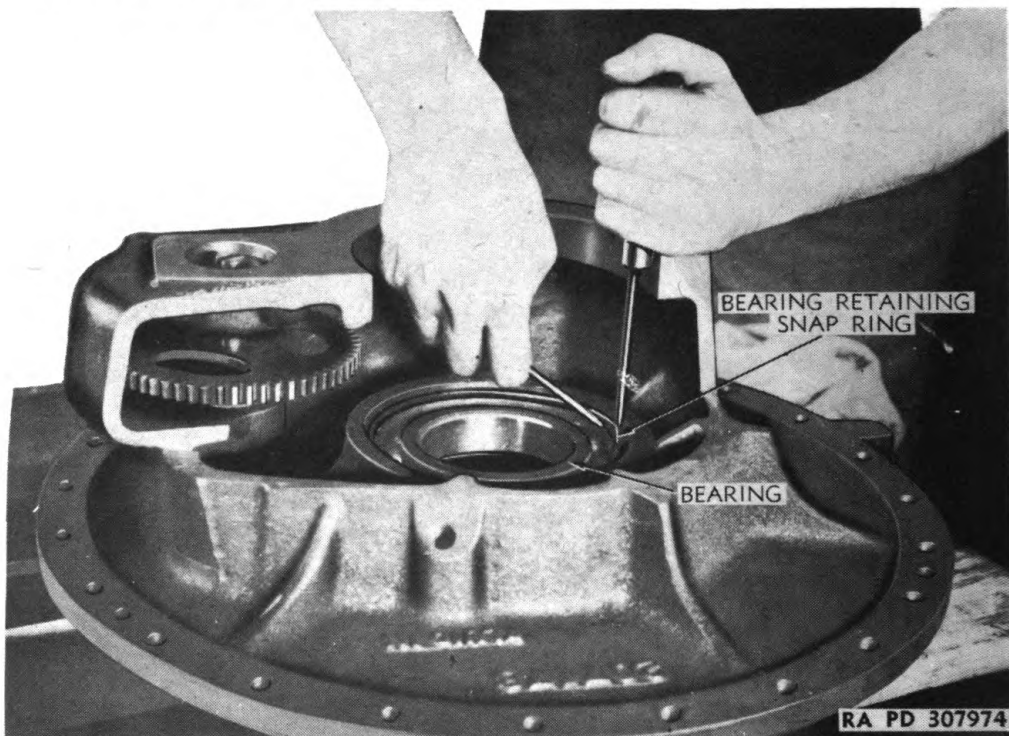

Figure 166 — Removing Bearing Retaining Ring From Cover Plate
h. Remove Impeller, Bearing, and Seals From Housing Cover Plate. Turn cover plate, still containing the impeller, over to rest on the impeller. Bend locking lug out of lock nut and remove lock nut from impeller hub with special wrench (41-W-3739-400) shown in figure 181. Lift cover plate from impeller, tapping hub of impeller gently, if necessary, to free it. Lift mating ring and mating ring washer from impeller hub. Pry out retaining rings as shown in figure 166, then press the bearing and two seals out of cover plate.